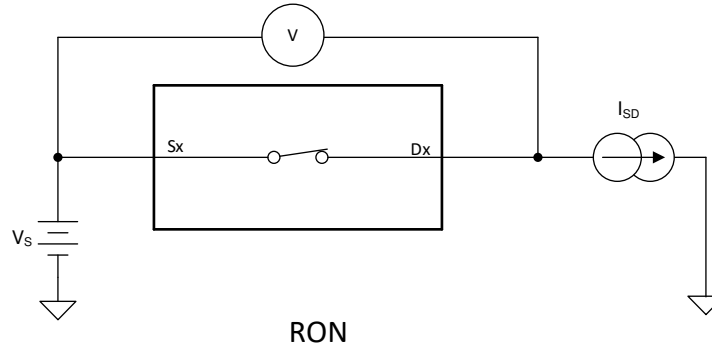

图 7-1. On-Resistance
The on-resistance of a device is the ohmic resistance between the source (Sx) and drain (D) pins of the device. The on-resistance varies with input voltage and supply voltage. The symbol R_{ON} is used to denote on-resistance. 图 7-1 shows the measurement setup used to measure R_{ON} . Voltage (V) and current (I_{SD}) are measured using the following setup, where R_{ON} is computed as $R_{ON} = V / I_{SD}$.